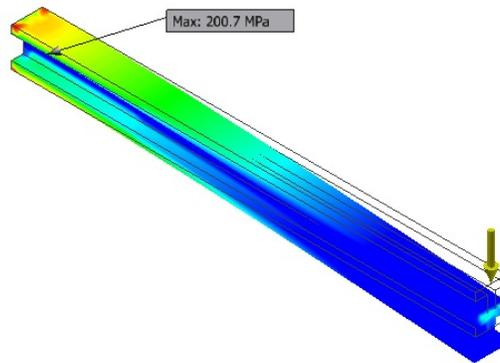

Figure 18-54 The von Mises contour with the maximum stress value callout
1. Choose the **Maximum Value** tool from the **Display** panel of the **Stress Analysis** contextual tab; a probe point with maximum value of the von Mises stress callout is displayed in the drawing area, refer to Figure 18-54.